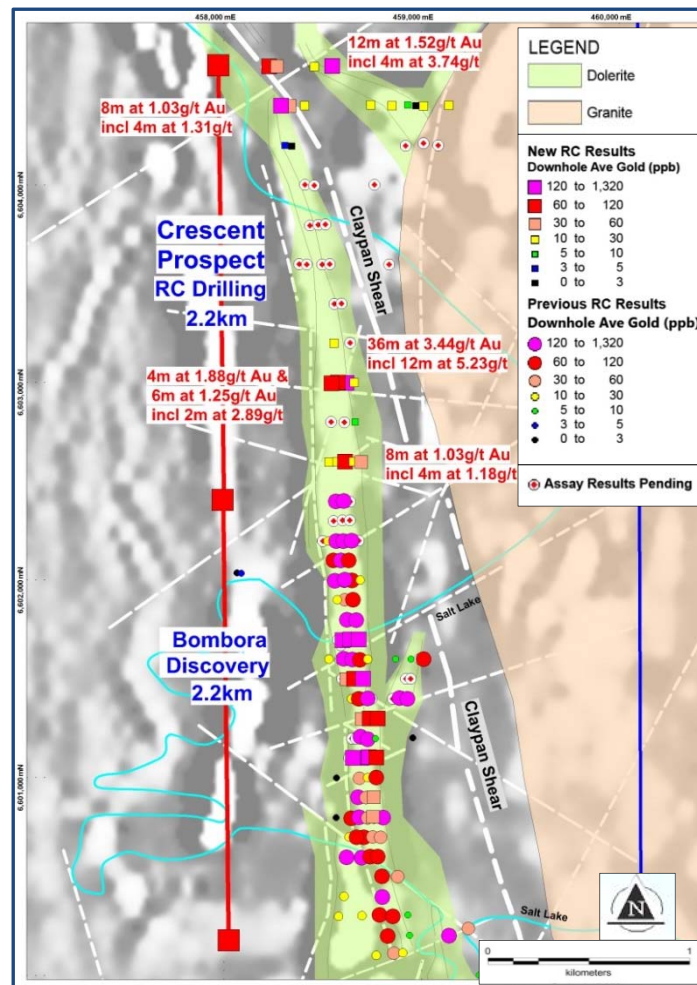

Figure 1: Crescent/Bombora RC drill hole plan: RC holes colour-coded by downhole average gold over aeromagnetic image with interpreted geology
Breaker Resources NL (ASX: BRB, **Breaker**) is pleased to advise that a first-pass 6,808m reconnaissance reverse circulation (RC) drill program at the Crescent Prospect has intersected significant gold mineralisation up to 2.2km north of the previously announced 2.2km-long Bombora gold discovery at Lake Roe, 100km east of Kalgoorlie (Figure 1).
The 2.2km mineralised zone that includes the previously termed Bombora, Bombora North and Gap gold discoveries is now referred to as the Bombora discovery in consequence of previous RC drilling that confirmed continuity of mineralisation between the three areas (Figures 1 and 2).
Drill holes are shown in plan (Figures 1 and 2) and selectively in long section in Figure 3.